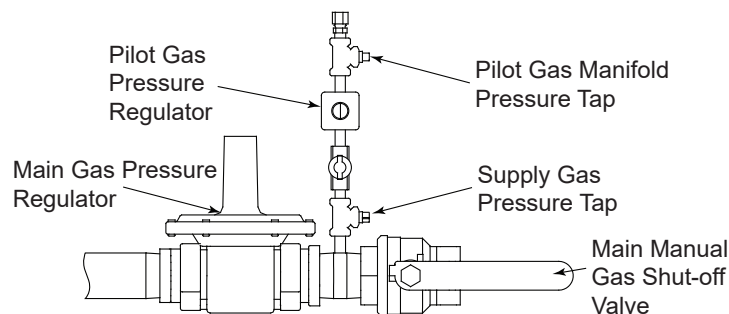

Figure 5 - Pilot Gas Pressure Tap and Regulator
1. Open Manifold Gas Shut-off Valve, see Figure 5.